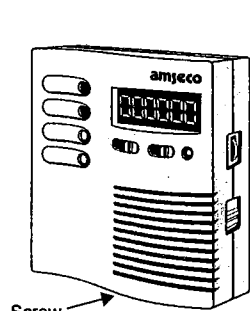

Fig. 7
1. Remove the screw from the bottom of the receiver and separate the front cover from the wireless receiver (refer to Fig. 7).